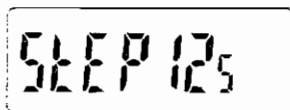

Figure 4b-6
- 1 Press and hold **LOW** until the display indicates the current frequency step size (takes about 3 seconds). For example, the following display (Figure 4b-6) represents a frequency step size of 12.5 KHz.